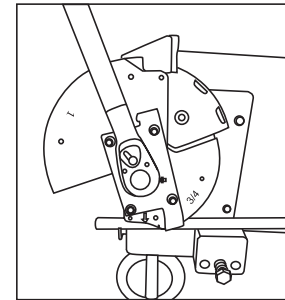

Fig 1
1. If calibrating the 1/2" on MBCCH-750 or 3/4" on MBCCH-1000 protractor pointer (3), rotate the bending shoe by rotating the shoe manually on the MBCCH-750 head or engaging the ratchet head on the MBCCH-1000 shoe. Rotate the bending shoe until the 1/2" or 3/4" is on the bottom and flip the conduit slide by pulling out on block and rotating clockwise 180 degrees and release (6) High side of the conduit slide should be on the top. Place a piece of 1/2" EMT for the MBCCH-750 or 3/4" EMT for the MBCCH-1000 Then follow steps 3 through 7.
2. If calibrating the 3/4" or 1" protractor pointer (3), rotate the bending shoe by engaging the ratchet head and rotating the bending shoe until the 1" is on the bottom (1) and flip the conduit slide by pulling out on block and rotating clockwise 180 degrees and release (6) low side of the conduit slide should be at the top. Place a piece of 1" EMT conduit then follow steps 3 through 7.
3. Apply pressure to the bending handle making sure it is tight, do not bend the conduit (Fig. 1).